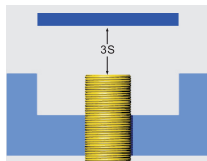

Fig3
- There should be no metallic object within  $3S$  of the sensing face. (Fig.3) Notice:  $S$ - Sensing range.